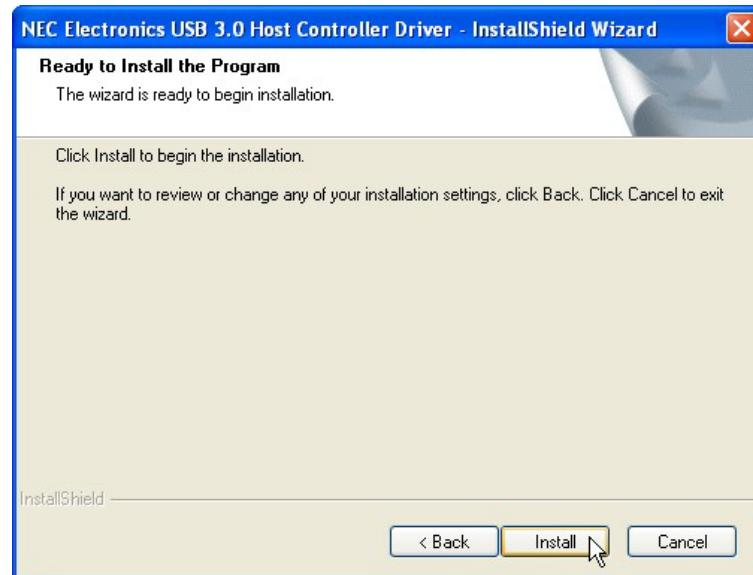

Figure 6-31: USB 3.0 Driver Installation
Step 11: The Ready to Install the Program screen in Figure 6-31 appears.